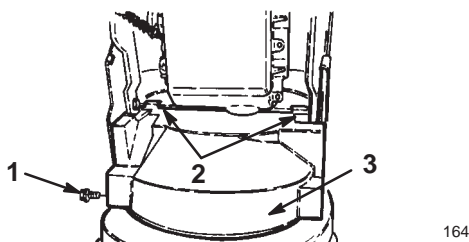

Figure 4
11. Install the lower belt cover on the underside of the auger/impeller housing and the engine frame with 2 1/2-inch (1 millimeter) flange-head bolts (Fig. 4).
14. Mount the upper belt cover to the engine frame with 3 flange-head bolts (1/2-inch) (Fig. 4).